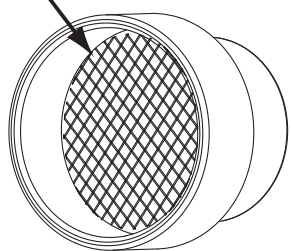

Figure 29. Intake Air Screen
12. Ensure that the intake-air screen on the intake-air connection is removed before connecting the intake-air pipe to the water heater. See **Figure 29**.